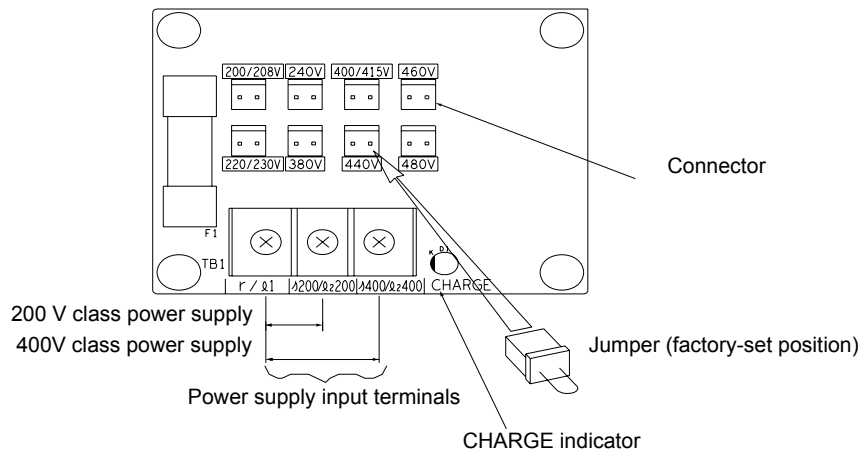

Fig 4.2 Power Supply Voltage Setting
4. Insert the jumper at the position for the voltage supplied to the Inverter (see Fig 4.2).